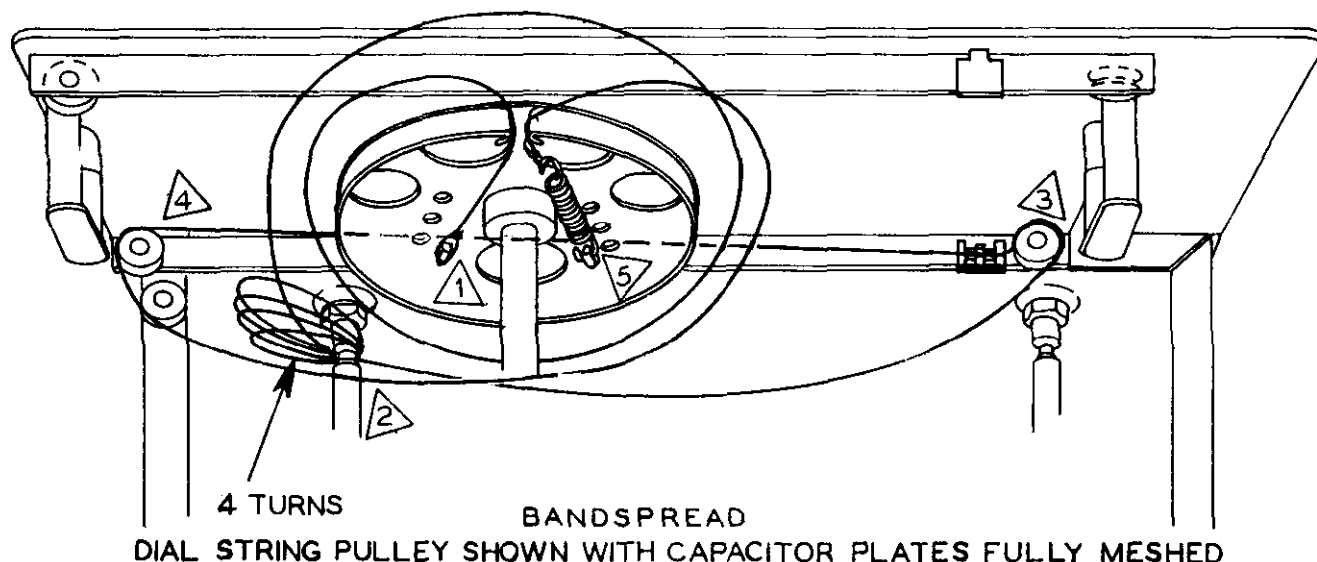

Figure 27
Refer to Figures 27 and 27A for the following steps.
- ( ) Referring to Figure 27, tie a small loop in one end of the dial cord. Hook this loop over the bandspread pulley lug marked **1**. Carefully follow Figure 27 and run the dial string counterclockwise around the pulley one complete turn. Now pass the dial cord around the tuning shaft counterclockwise four complete turns. Run the dial cord around the pulley marked with a **3**, as shown. Continue the dial cord around pulleys marked **4** and back to the main dial pulley. Make one half turn around the dial pulley counterclockwise and fasten to the dial cord spring. Hook the spring over the lug marked with **5**. Make certain that the dial cord has tension on it. The spring should be